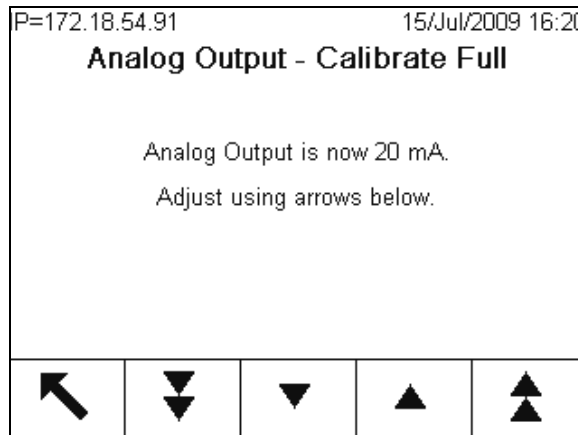

Figure 7-6: Analog Output – Calibrate Full Screen
11. At the **Analog Output - Calibrate Full** screen (Figure 7-6), use the softkeys to adjust the analog output signal to be exactly what the customer's device requires for its high limit. The available softkeys are described in Table 7-2.